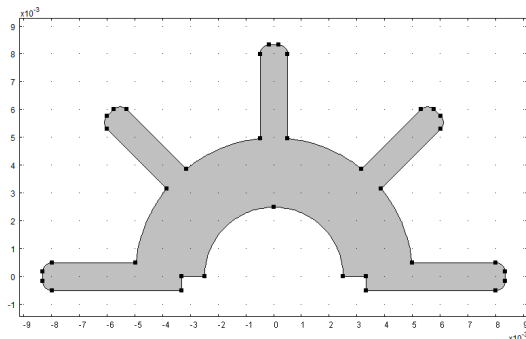
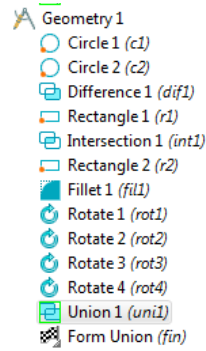

Figure 5-2: Final 2D object created in the Model Builder.
Figure 5-3: an example of a 2D geometry sequence.
- The final geometry is shown in Figure 5-2.
Figure 5-3 shows the geometry sequence used to create Figure 5-2. All primitive objects and the fillet operation are parameterized through the radius of the inner and outer heat sink arcs, the length and thickness of the flanges, and the radius of the fillets. You can change the parameter values in the **Parameters** table or for any object to create